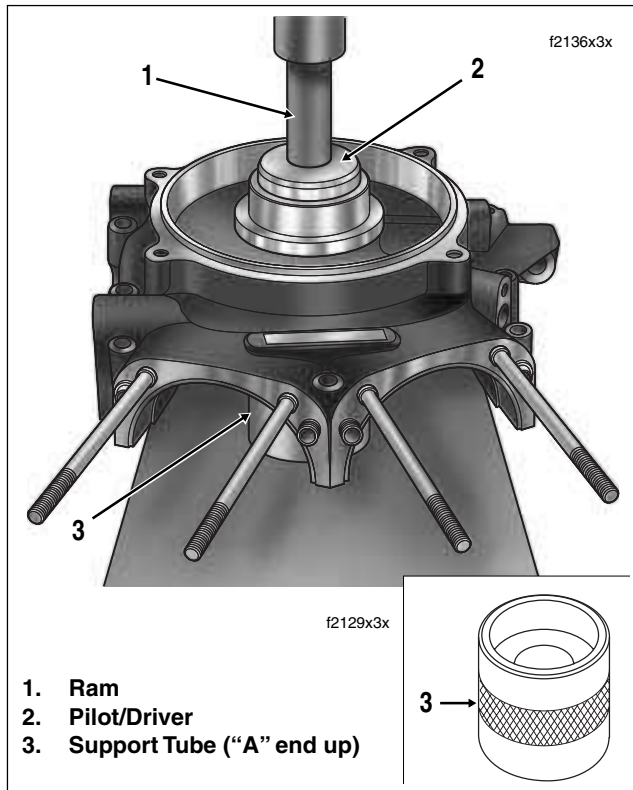

Figure 3-125. Remove Sprocket Shaft Bearing
9. With the outboard side of the left crankcase half facing upward, position sprocket shaft bearing bore over support tube. See Figure 3-125.